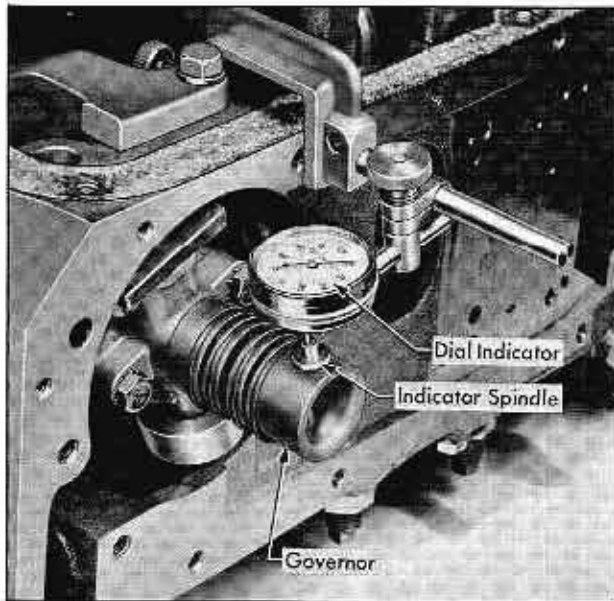
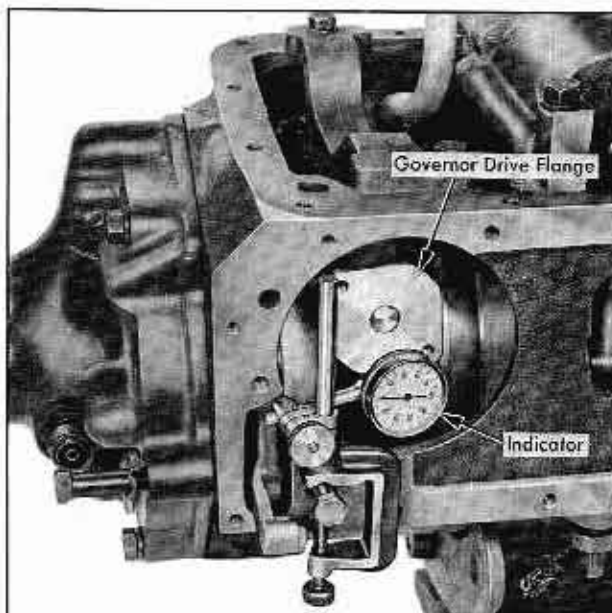

Fig. 14-64 Checking Governor Runout
Fig. 14-65 Checking Governor Drive Flange Runout
8. Install dial indicator and check governor runout at tower about 1/4" from the end of the governor. Fig. 14-64. Runout should not exceed .005". If runout exceeds .005", rotate governor 180° on flange and recheck. If runout still exceeds .005", check flange runout which should not exceed .002". If runout of drive flange exceeds .002", correct condition by replacing one or all of the following parts: governor drive flange, gear set or complete rear oil pump assembly. Fig. 14-65.